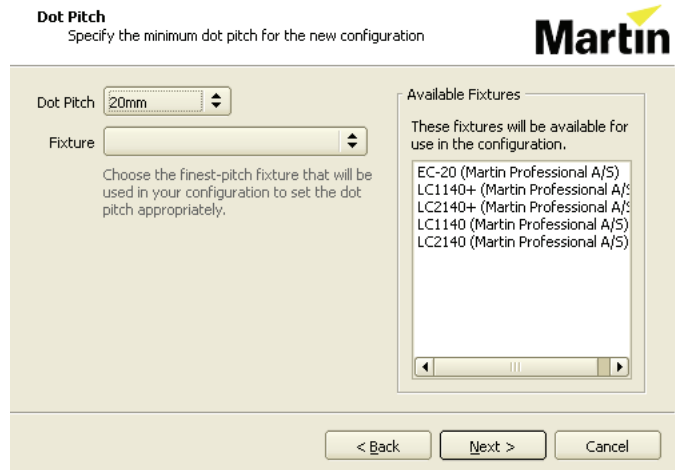

Figure 6: Dot pitch setting window
- See Figure 6. Either select the finest pitch you will use in the installation in the **Dot Pitch** selection box, or select the panel with the finest pitch you will use in the **Fixture** selection box to set the dot pitch automatically: